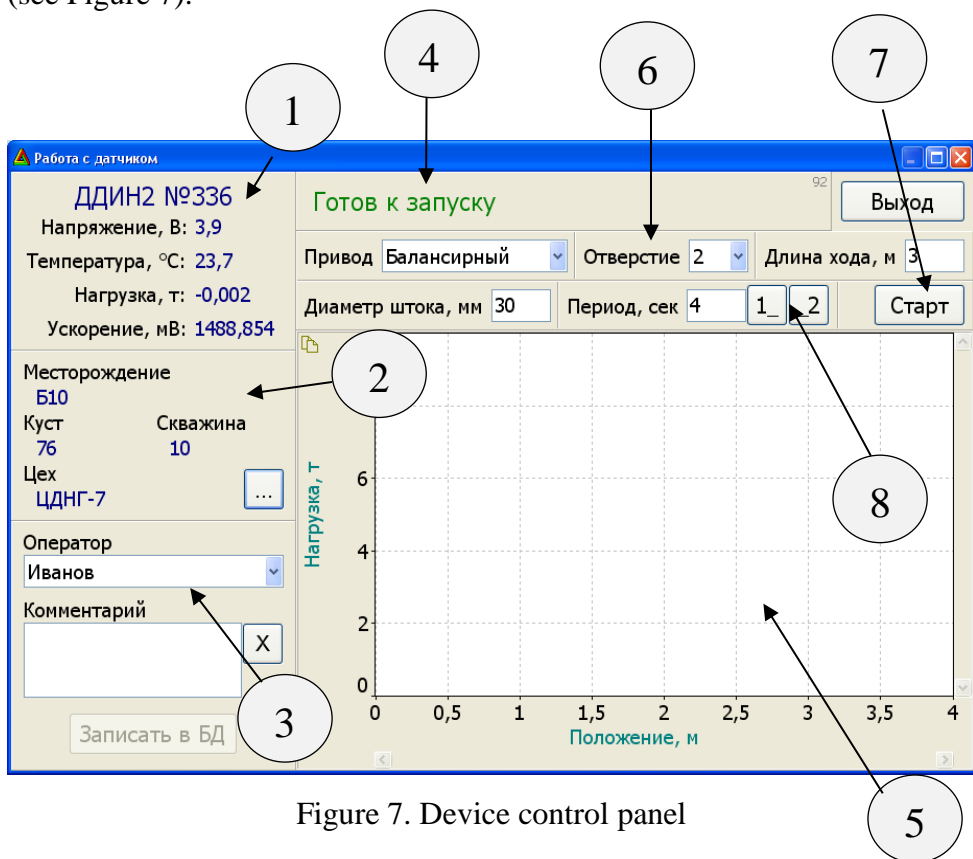

Figure 7. Device control panel
If the connection is successful, the device control panel appears (see Figure 7).
- Check and, if necessary, change the details of the well (p.2 Fig. 7).
- Specify the operator, select the type of survey and enter the explanations (p.3 Figure 7).
- Specify pump setting parameters (p.6 Figure 7).
- Make sure that the device is in the "Ready to start" state (p.4 Figure 10) and press the "Start" button (p.7 Figure 7).
- After calculation the resulting dynamogram will be displayed (p.5 Figure 7).